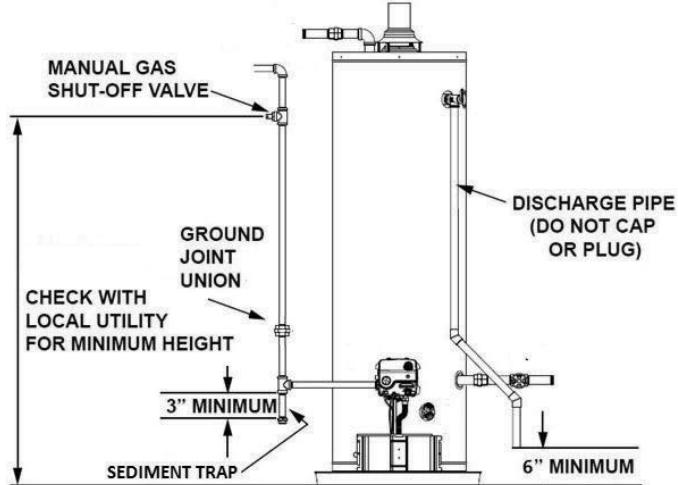

FIGURE 24. PIPING CONFIGURATION
5. Referring to *Figure 24* (page 32), disconnect the ground joint union in the gas piping.